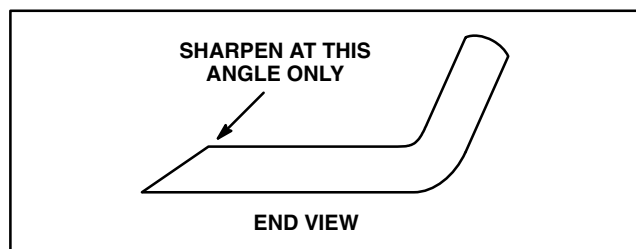

Figure 22
3. Inspect cutting edges of all blades. Sharpen the cutting edges if they are dull or nicked. Sharpen only the top of the cutting edge and maintain the original cutting angle for best performance (Fig. 22). The blade will remain balanced if same amount of metal is removed from both cutting edges.